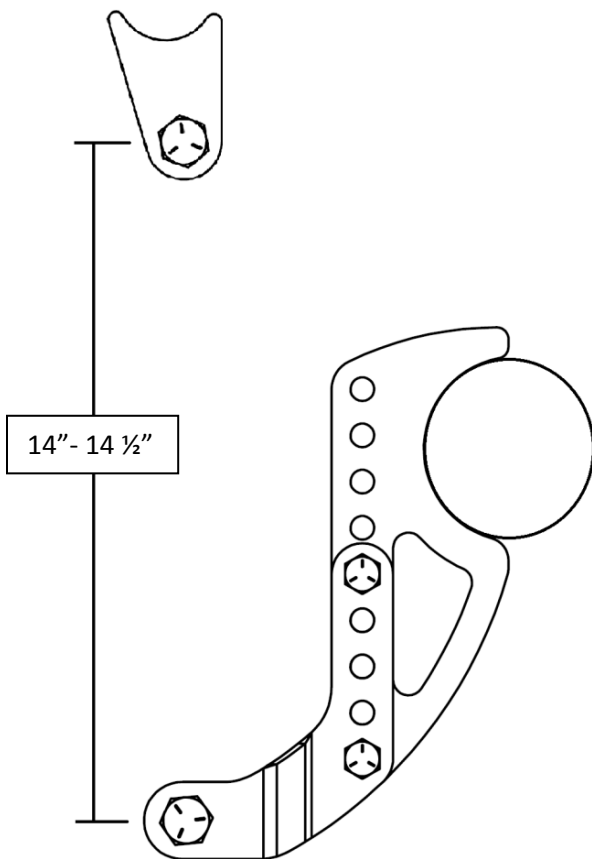

Figure 1
3. If the vehicle has factory frame rails, it is recommended that the frame rails be double plated in the area the cross member is to be welded. Keep in mind that the upper points should be as parallel to each other as possible (See **Figure 1**). Measure the distance from frame rail to frame rail and cut the cross member tubing to length (if applicable). Tack the tubing into place. Double check all measurements.
4. Assemble both sets of upper mounts (two tabs, one  $\frac{1}{2}$ " ID x  $1\frac{1}{4}$ " in. wide sleeve or a 1" wide bearing (from shock), one  $\frac{1}{2}$ " x  $2\frac{1}{2}$ " bolt and one  $\frac{1}{2}$ " nut). Assemble both of the adjustable mounts (one left L-bracket, one Right L-bracket, one housing bracket, two  $\frac{3}{8}$ " x  $1\frac{1}{4}$ " bolts, two  $\frac{3}{8}$ " nuts). When assembling the adjustable shock mount brackets, the housing bracket is sandwiched between the two L-brackets. Align the L-brackets so the shock mount hole is approximately halfway down the housing bracket (**Figure 1**). This allows plenty of ride height adjustment, both up and down. It is suggested that for the installation process you substitute the lock nuts with standard nuts for ease of use.
10. It will be necessary to adjust the spring seat to achieve the proper shock ride height. The shock ride height is measured from the center of the upper shock eye to the center of the lower shock eye with the car sitting on the ground at ride height. (**Figure 1**). The shock ride height should be 14" to  $14\frac{1}{2}$ " if you have purchased a QA1 Pro-Rear System. If the chassis ride height is off some, do not be concerned at this point as it can be changed later. If the shock ride height is